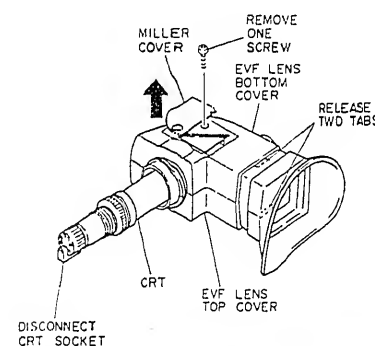

Fig. 2-156
1. Release two (2) tabs and remove the eye cup. (See Fig. 2-156)
3. Remove one (1) screw holding the EVF lens bottom cover.